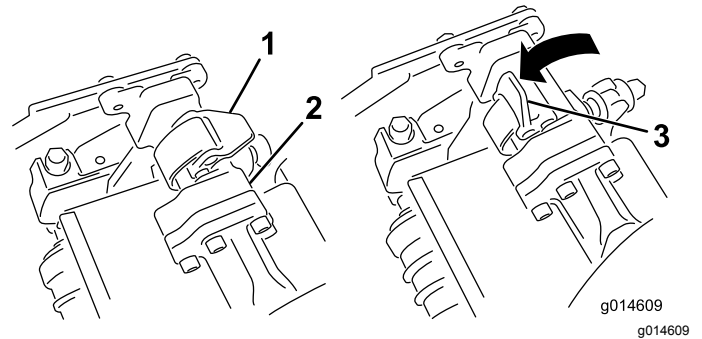
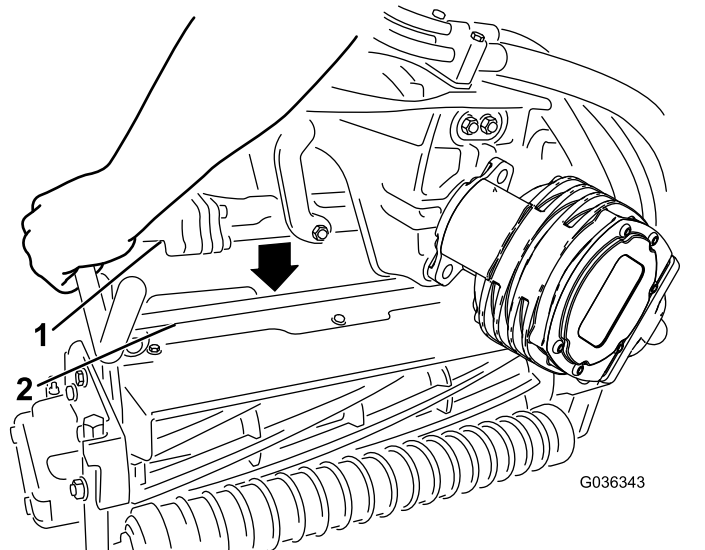

Figure 31
Figure 32
4. With the latches on the suspension-arm bar pointing up (i.e., open) (Figure 31), push the suspension arm down so that the bar fits over the bar across the top of the cutting unit (Figure 32).
5. Close the latches down and around the cutting-unit bar and lock them in place (Figure 31).
5. Open the latches on the suspension-arm bar of the cutting unit you are removing (Figure 31).